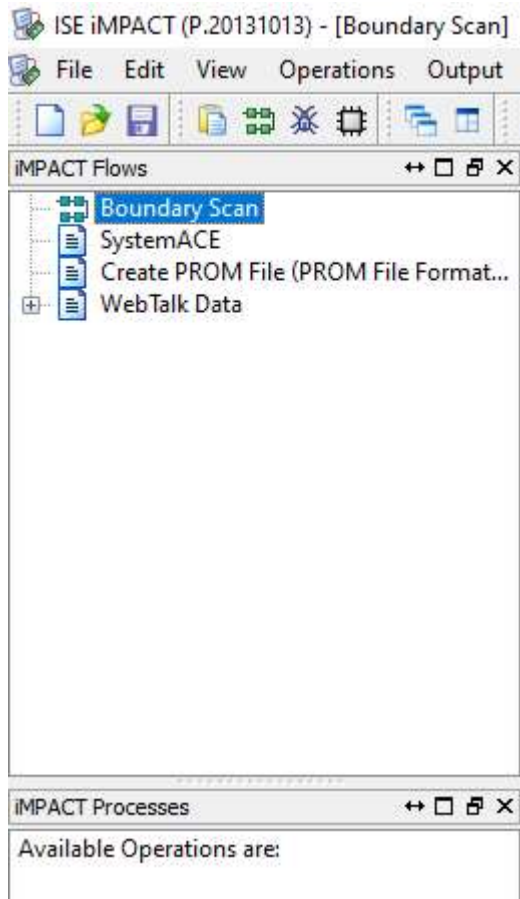

Fig 1.32
36. A iSE iMPACT window will open, double click on boundary scan (Fig 1.32).